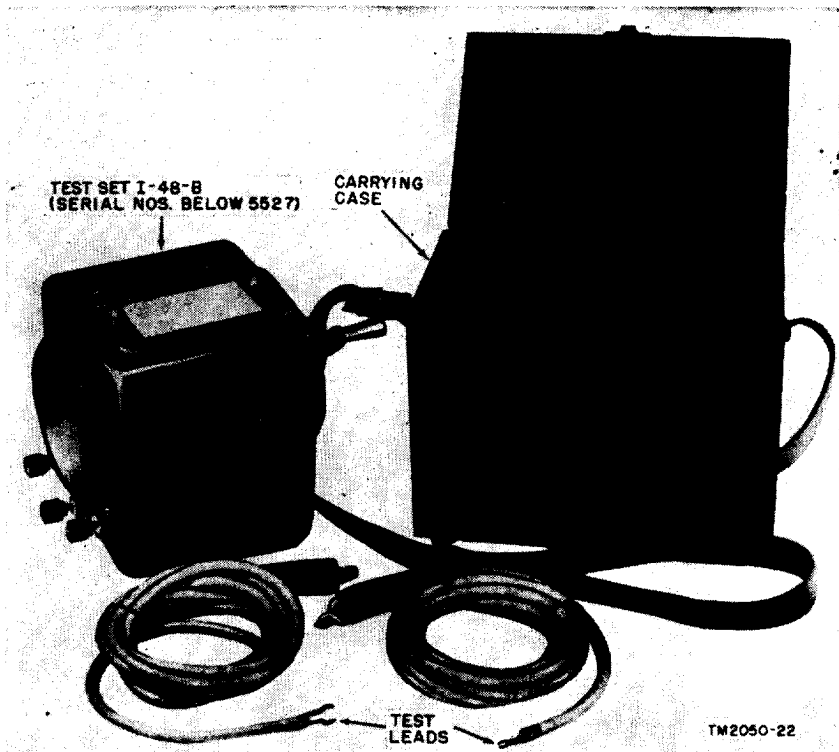
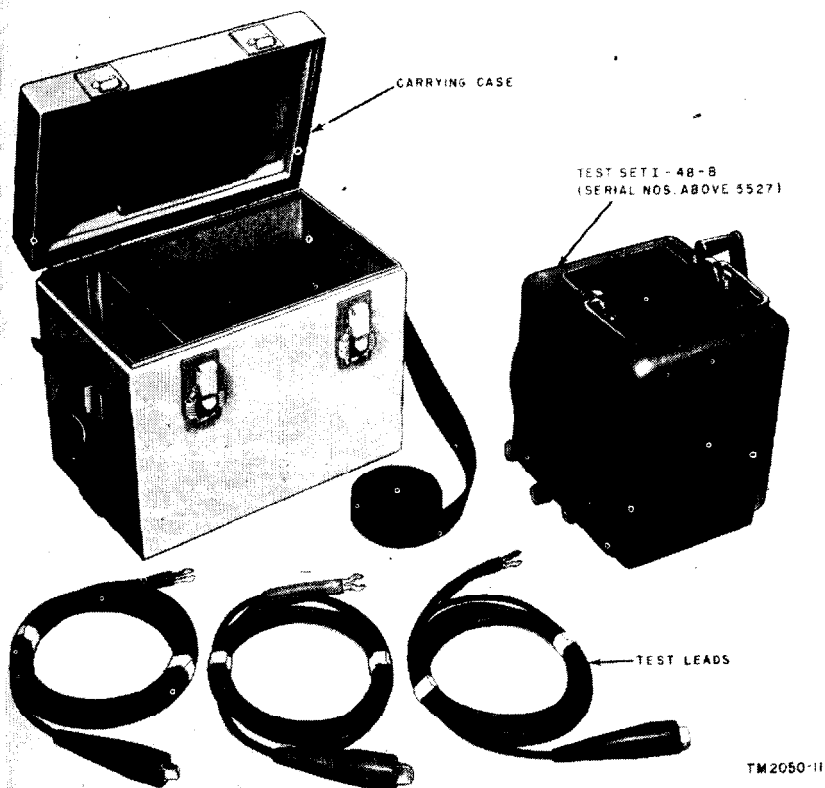

Figure 2. Test set I-48-B (serial numbers lower than 5527), carrying case, and test leads.
Figure 3. Test ser I-48-B (serial numbers 5527 and higher), carrying case, and test leads.
a. *Test Set I-48-B (Serial Numbers Lower than 5527).* The following table gives the unpacked weights and dimensions of Test Set I-48-B (serial numbers lower than 5527) (fig. 2) and of the accessories furnished with this equipment:
b. *Test Set I-48-B (Serial Numbers 5527 and Higher) and Ohmmeter ZM-21A/U.* The following table gives the unpacked weights and dimensions of Test Set I-48-B (serial numbers 5527 and higher) (fig. 3) and Ohmmeter ZM-21A/U and of the accessories furnished with this equipment:
- (2) (2) Test Sets I-48-B with serial numbers lower than 5527 (and approximately 340 units with serial numbers between 5527 and 6996) are supplied with plywood carrying cases in an olive-drab finish (fig. 2). Later models of Test Set I-48-B are supplied with waterproof aluminum carrying cases in a smooth gray enamel finish (fig. 3). Each case has a separate compartment for storing the test leads. The main compartment is lined with sponge rubber.
- (3) (3) The Test Sets I-48-B in the plywood carrying cases ((2) above) are provided with two flexible, insulated test leads. One test lead is equipped with a red battery clip cover on one end and red insulating sleeving above the spade-type terminal on the other end; the other test lead is equipped with a black battery clip cover and black insulating sleeving. Later models of Test Set I-48-B are supplied with three test leads one with a red battery clip cover and red insulating sleeving, and two with black battery clip covers and black insulating sleeving.
Test Set I-48-B and Ohmmeter ZM-21A/U are portable, self-contained instruments designed to be used near the equipment, the wire, or the cable line to be tested. Place the equipment on a firm, level surface with the indicator scale plate in a horizontal plane. Do not place it in a strong, external magnetic field similar to that produced by some types of electrical equipment. Before operating the ohmmeter, ground it through the equipment under test by connecting the GROUND terminal on the side of the case to the equipment in accordance with instructions for the type of equipment under test. When the ohmmeter is removed from the carrying case, the hand generator crank is folded against the side of the case with the handle extending over the top of the case (fig. 3). Unfold the crank to bring it into its operating position.